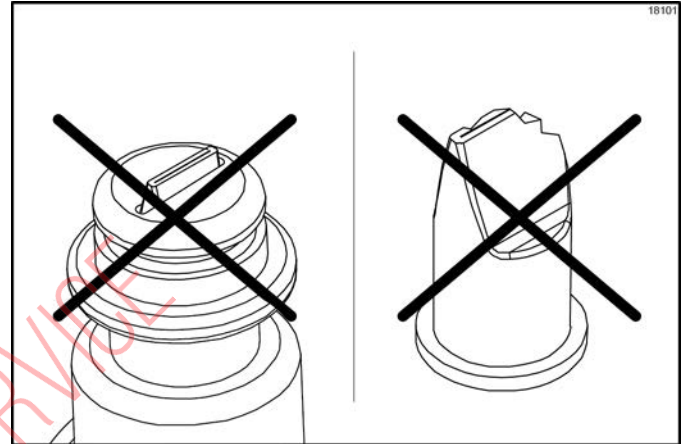

Figure 6-130
**Note:** Replace the duckbill valve if it is damaged or extends past the syrup nose fitting slot. (See Figure 6-130.)